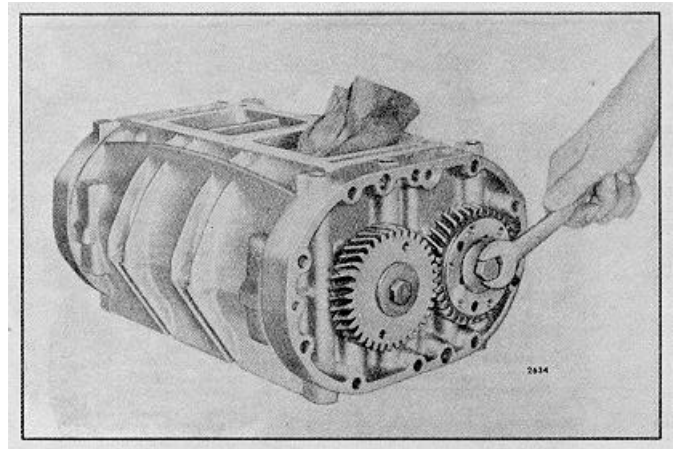

FIG. 22 - Installing Blower Rotor Timing Gears
- g. Thread a 1/2 "-20 x 1.10 " bolt with integral washer into the end of each rotor shaft. Place a clean folded cloth between the lobes of the rotors to prevent the gears from turning. Draw the gears into position tight against the shims and the bearing inner races as shown in Fig. 22.